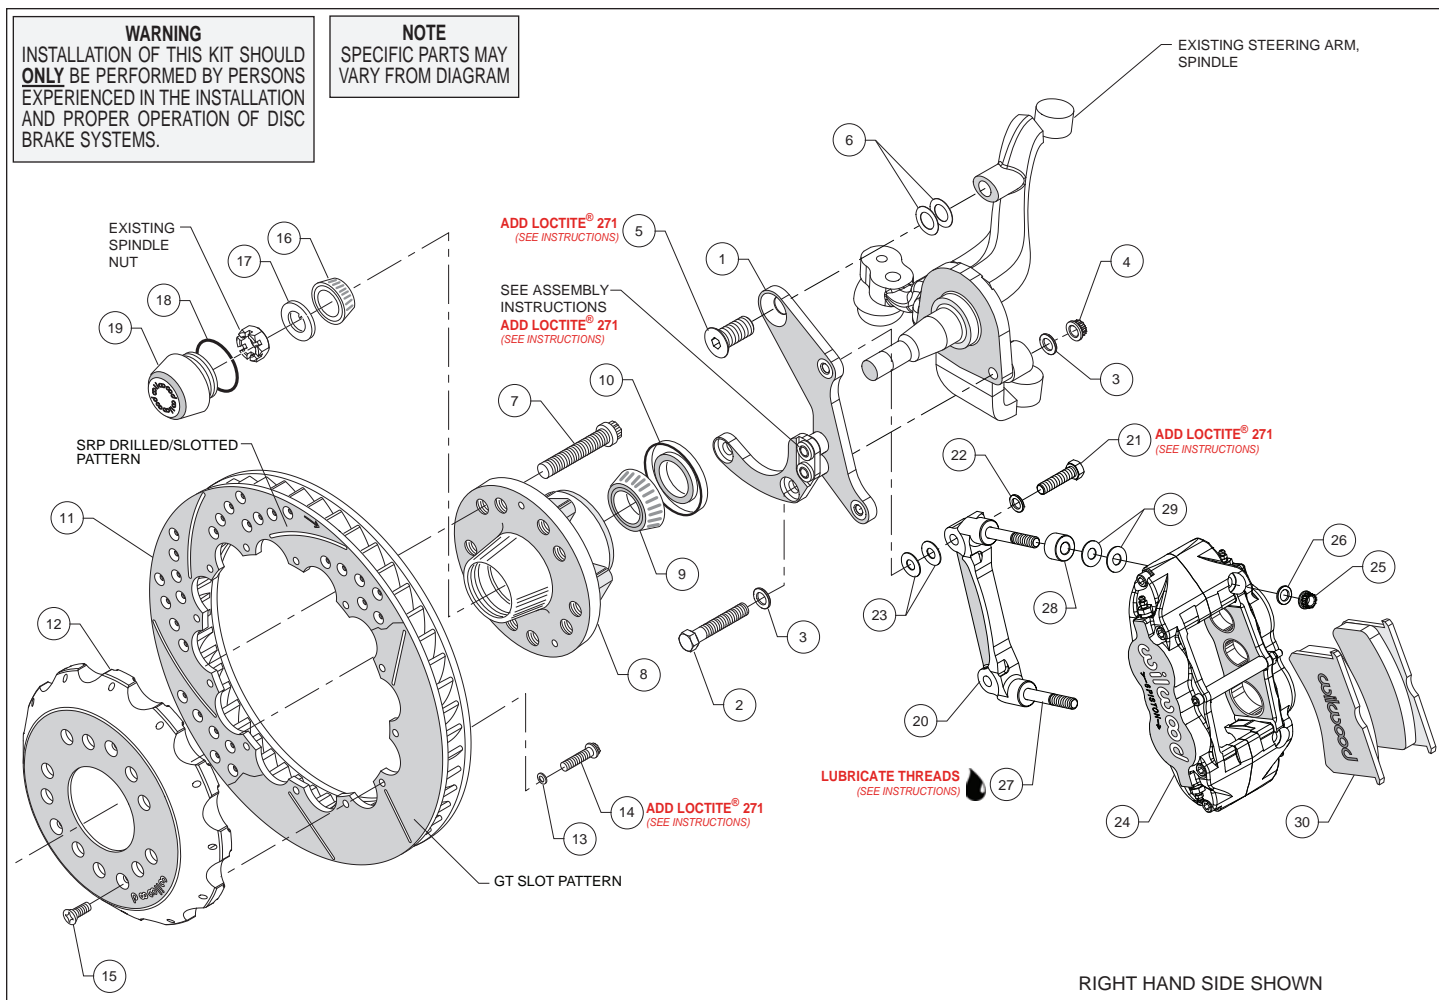
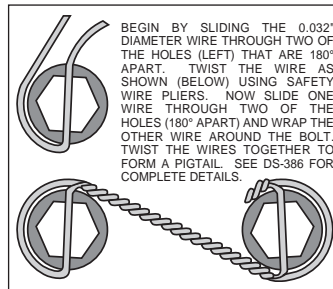
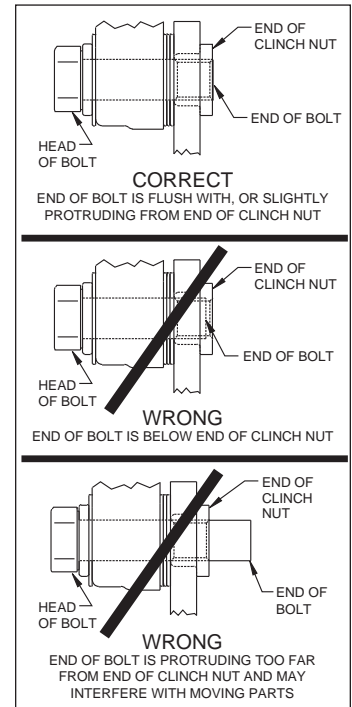

Figure 1. Typical Installation Configuration
Figure 3. Safety Wire Diagram
Figure 4. Clinch Nut Engagement Diagram
Assembly Instructions (numbers in parenthesis refer to the parts list and Figure 1 on the preceding pages): **CAUTION:** All mounting bolts must fully engage clinch nuts. Be sure to check that all bolts are either flush or protruding through flanged side of clinch nut after shimming, Figure 4.
- The spindle bracket (1) has been assembled at the factory for alignment purposes. Loosen the two bolts that secure the brackets together so that the bolts are hand tight only. This will enable the bracket assembly to be adjusted to accommodate various spindle tolerances during assembly. Align bracket with the two lower holes on the spindle face and attach using bolts (2), washers (3), and secure using nuts (4), as shown in Figure 1 and Photo 1. Install bolt (5) through top of bracket while placing shims (6) between bracket and spindle, Figure 1. Initially use two .024" thick shims (6) on the top bolt between the bracket and upright. Temporarily tighten the mounting bolts. Ensure that the flanged heads of the clinch nuts in the bracket are facing outboard, Photo 1. **NOTE:** The bracket must fit squarely against the mounting points on the spindle. Inspect for interference from casting irregularities, machining ridges, burrs, etc. Some spindles may require a small amount of grinding to clear the bracket assembly in the area of the bracket-to-bracket spacers.
- Check that the bracket is aligned parallel to the rotor by assembling and installing the hub/rotor per the step below. If not, adjust by adding or subtracting shims (6) between the spindle and bracket, Figure 1.
- Install wheel studs (7) into the hub (8), Photo 2. Torque to 77 ft-lb. **NOTE:** There are two five lug patterns in the hub (5 x 4.50 and 5 x 4.75). Ensure the correct hub stud pattern is being used to fit the wheel application.
- Pack the large inner bearing cone (9) with high temperature disc brake bearing grease (available from your local auto parts store) and install into the backside of the hub (8), Photo 3.
- Install the grease seal (10) by pressing into the backside of the hub (8), flush with the end of the hub, Photo 3.
- Orient the rotor (11) and the hat (12) as shown in Figure 1 and Photo 4. Attach rotor to hat using bolts (14) and washers (13). Using an alternating sequence, apply red *Loctite*® 271 to the threads, and torque to 155 **in-lbs**. For an added measure of security, the bolts may be safety wired using standard 0.032 inch diameter stainless steel safety wire as shown in Figure 3. Refer to Wilwood's data sheet DS-386 (available at www.wilwood.com/Pdf/DataSheets/ds386.pdf) for complete safety wire installation instructions.
- The caliper mount bracket (20) should initially be installed with clean, dry threads on the mounting bolts. Orient the bracket as shown in Figure 1 and Photo 7, and install using bolts (21) and washers (22). Initially place two .035" thick shims (23) on each bolt between the bracket and the spindle bracket (1), Figure 1. Temporarily tighten the mounting bolts. Later, after the caliper alignment has been checked, the mount bolts will be secured using red *Loctite*® 271.
- **NOTE:** *This kit contains distinct right and left hand calipers that must be mounted in a specific direction, as described below.* Lubricate the caliper mounting studs (27) with lightweight oil. Initially place two .035" thick shims (29) and one spacer (28) on each stud between the caliper and the bracket, as shown in Figure 1 and Photo 8. Mount the caliper (24) onto the bracket (27) using lock nuts (25) and washers (26), Figure 1. Ensure that the caliper is mounted so the largest pistons are at the rotor exit end of the caliper, in relation to the direction of rotor rotation. Temporarily tighten the lock nuts and view the rotor through the top opening of the caliper. The rotor should be centered in the caliper, Photo 9. If not, adjust by adding or subtracting shims (23) between the spindle bracket (1) and the caliper bracket. Always use the same amount of shims on each of the two mounting bolts. **NOTE:** *The end of each bolt must be flush with or slightly protruding from the head of the clinch nut, as shown in Figure 4.* If necessary place spare shims between washer (22) and caliper mounting bracket to achieve the proper clinch nut engagement. Once the caliper alignment and clinch nut engagement are correct, remove the bolts one at a time, apply red *Loctite*® 271 to the threads, and torque to 40 ft-lb.